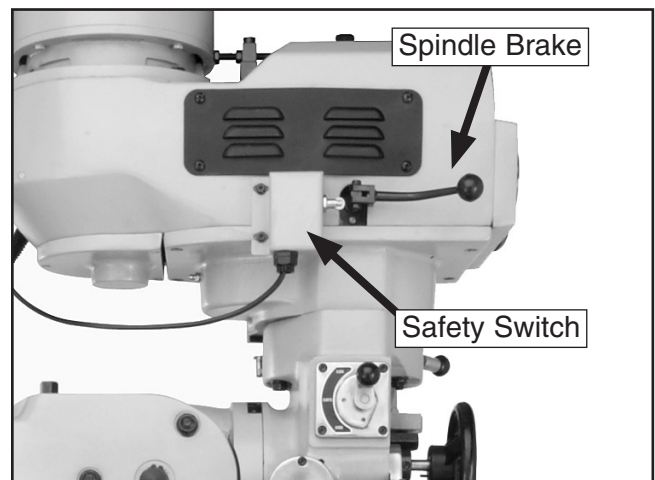

Figure 23. Emergency spindle brake.
15. Close and lock the electrical cabinet door, start the spindle rotating, then push the emergency spindle brake (see **Figure 23**).